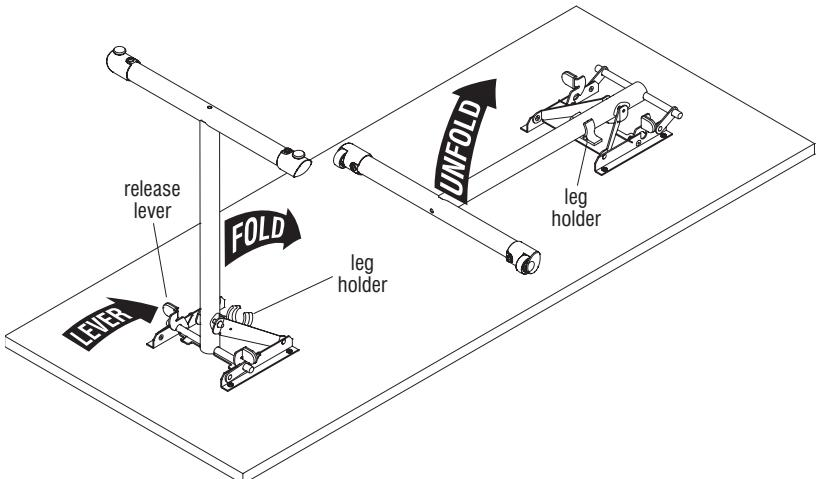

Figure 3
1. **To unfold:** place table top upside down onto a soft protective surface (Figure 3).
2. Unsnap table leg from leg holder. Lift leg to a 90° angle making sure the base locks securely into place (Figure 3).
4. If all four glides/wheels do not come in contact with the floor, adjust appropriate glide(s) in or out to stabilize table (Figure 3).
5. **To fold:** place table top upside down onto a soft protective surface (Figure 3).
6. While depressing either one or both of the gray release levers on either side of the leg base, push the leg down toward the center of the table. Snap the leg into the plastic leg holder (Figure 3).
8. While in the folded position, the spacing bumpers provide protection for the top surface of an adjacent table when tables are leaned against each other (Figure 3).